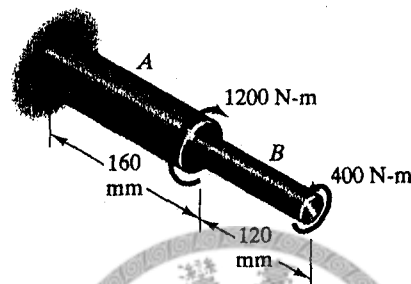

Figure 4
4. The bar shown in Figure 4 consists of material with shear modulus  $G = 28 \text{ GPa}$  and has a solid circular cross section. Part  $A$  is 40 mm in diameter and Part  $B$  is 20 mm in diameter. (Total 25%)